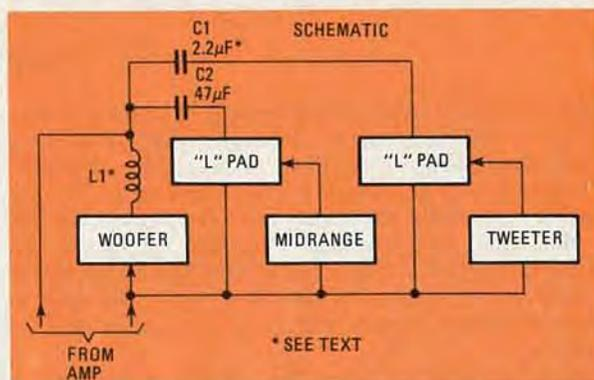

FIG. 4—SIX dB/OCTAVE crossover network is simple to build. L-pads balance sound from the three sections of the system.
The mini-SAFE's crossover networks and L-pads are shown in Fig. 4. The L-pads are used to balance the system and also to optimize its bass response, which can vary depending on where in the listening room it's placed. (The bass
25. Mount and connect the tweeter as shown in Fig. 3 or Fig. 4. If a horn-type tweeter is used, you may need to reduce the value of capacitor C1 to 1.0 μF to prevent lower frequencies from being shunted to the tweeter and being distorted.